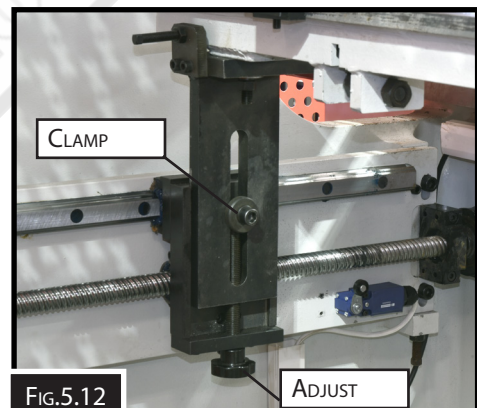

FIG.5.12
4. If the fingers need to be raised or lowered then release the clamp and adjust the height of the fingers accordingly (Fig.5.12), making sure that both ends are adjusted so that the back gauge remains parallel.